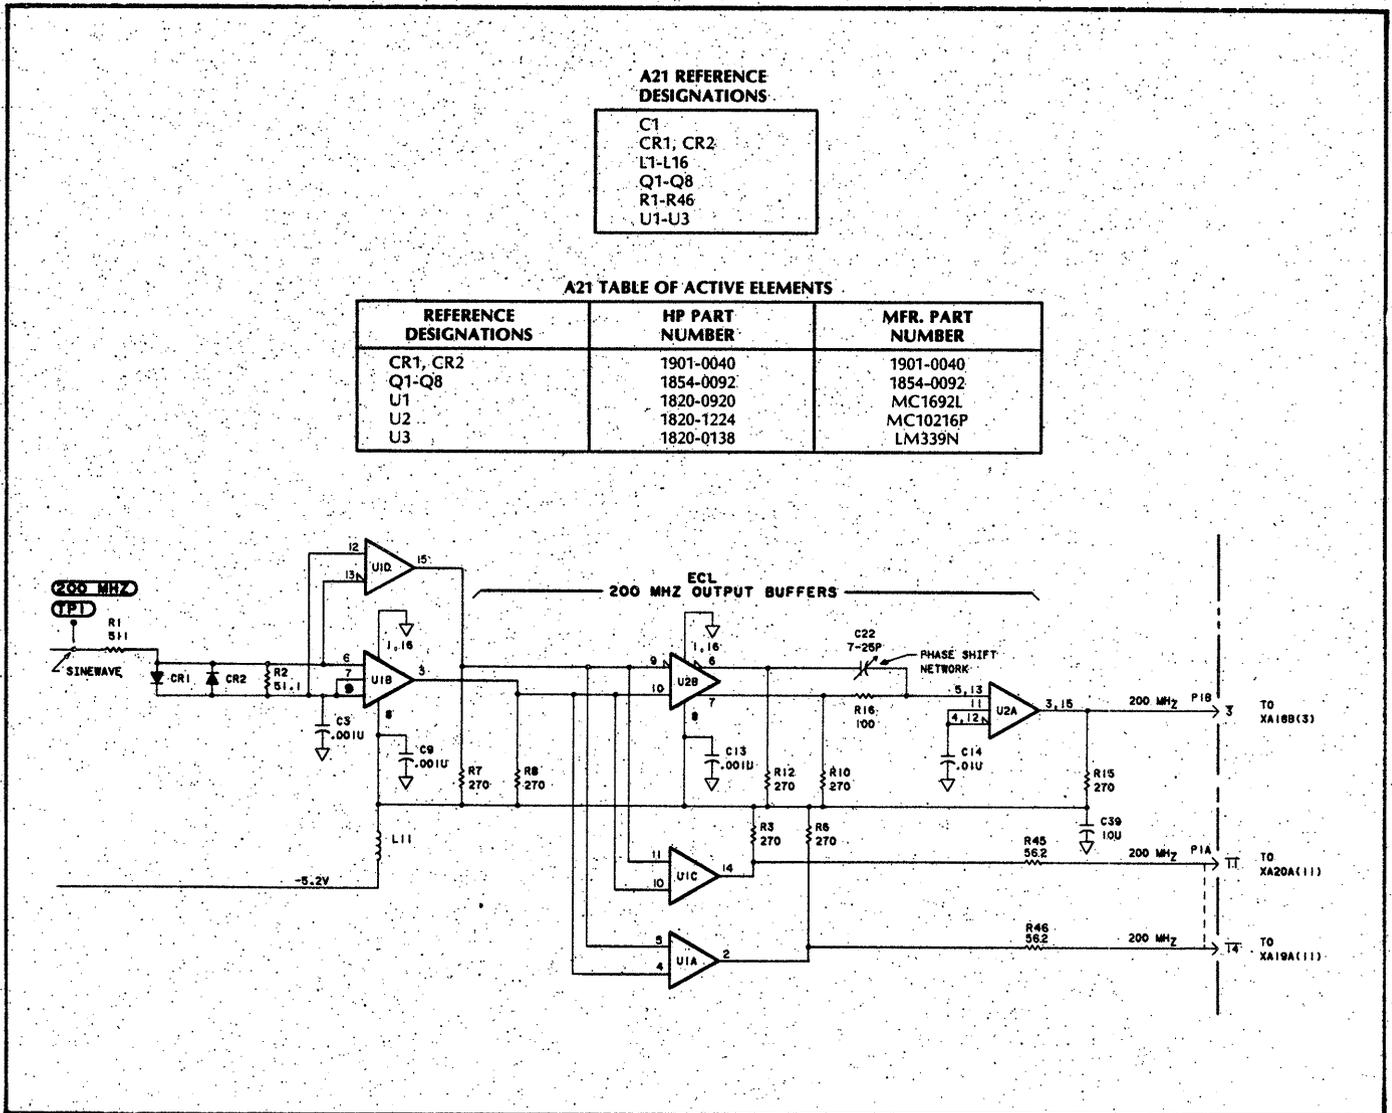

Figure 1. A21 Changes for 05370-60124 200 MHz Multiplier in CHANGE 4
- >Add R45 and R46; change connections for U1A,B,C and add U1D; and change tables for "Reference Designations" and "Active Elements" as shown in attached Figure 1.